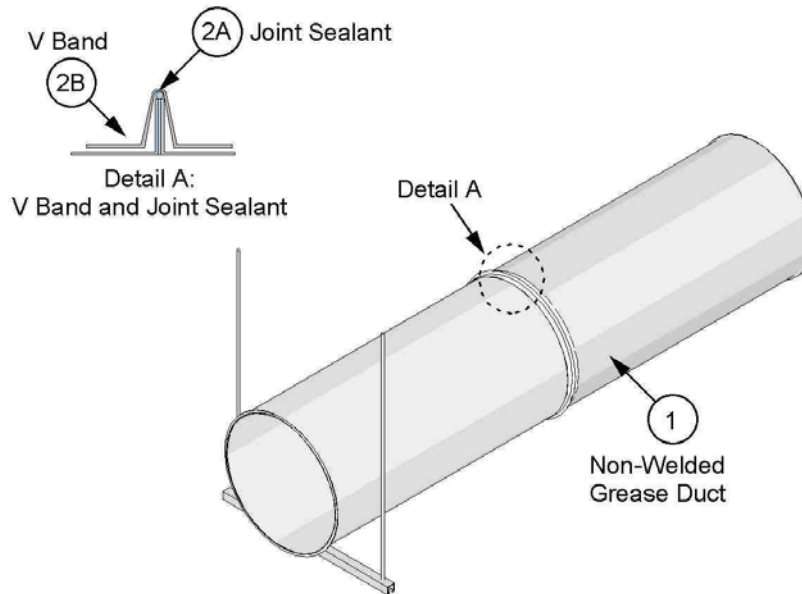

Figure 1. Non-Welded Grease Duct Model No. RDW
- B. **V BAND –** Use the supplied V band (see Figure 1). Place the loose V band, filled with sealant (Item 2A), over one of the